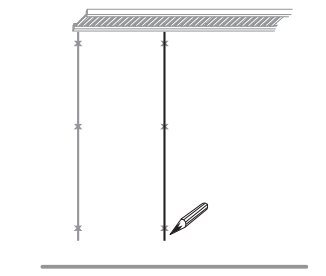

FIG. 2.5
- Mark a second line on the wall parallel to the first line. (Fig. 2.5)